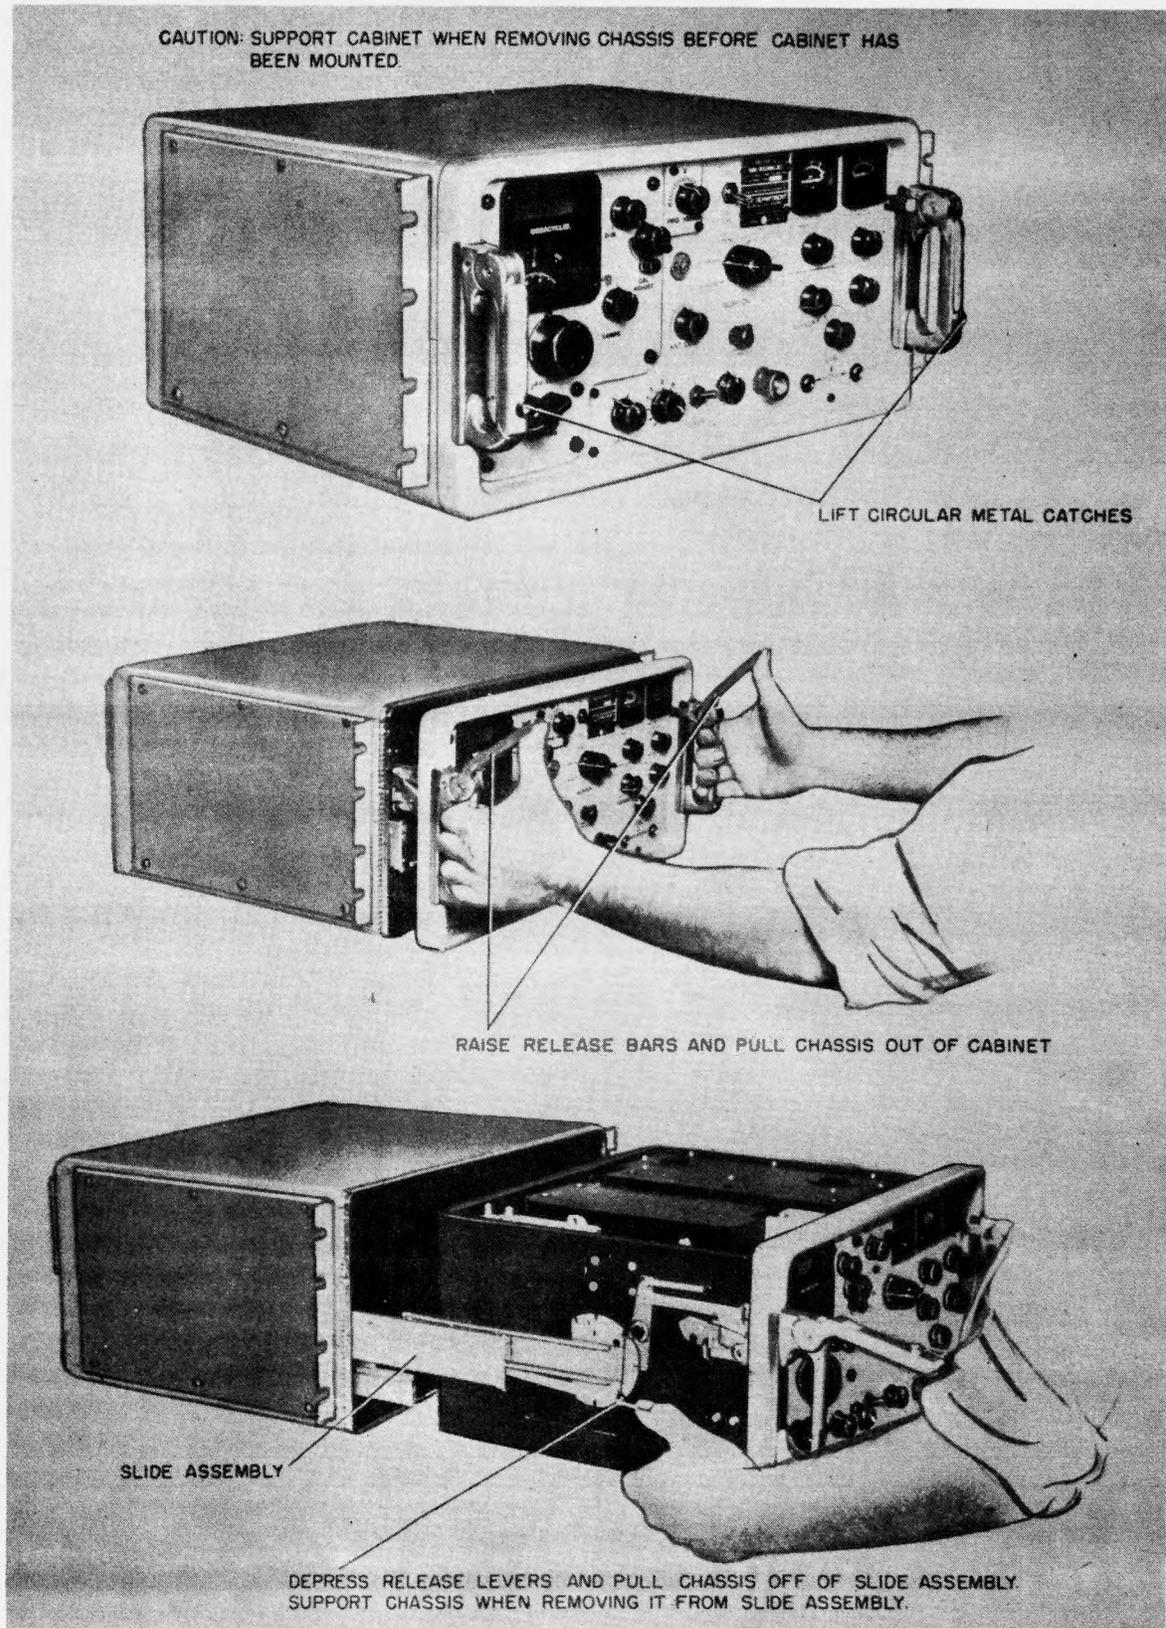

Figure 3-2. Removal of Chassis from Case
(1) RECEIVER OR COMPARATOR KEYER CHASSIS. - Refer to figure 3-2. Lift the circular metal catches located toward the bottom of the two handles at the sides of the front panel and raise the two release bars astride the handles as far as they will go, then slide the chassis out. Depress the two chassis release levers located on the sides of the chassis, and pull the chassis off the slide assembly.
(2) R-F OSCILLATOR CHASSIS. - The chassis of this unit is mounted on its front panel and the complete unit must be taken out of the cabinet in order to service it. It is necessary to disconnect the cables at the rear of the unit before removal from the cabinet.